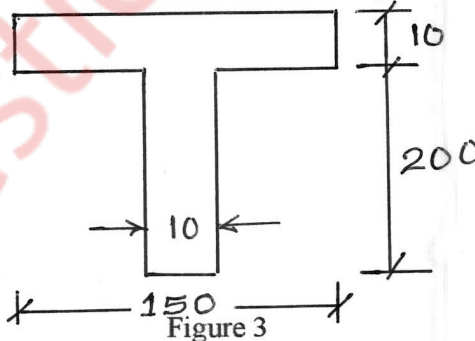

Figure 3
- c) Determine the shape factor of section shown in Figure 3. 05